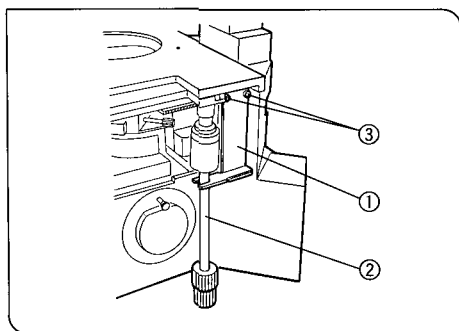
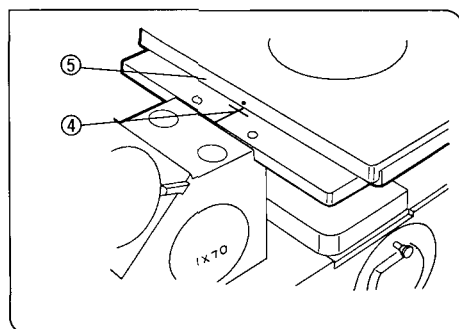

Fig. 17
Fig. 18
(Figs. 17, 18)
1. Insert the stalk ② of the flexible X-Y movement knobs into the U-shaped notch in the positioning bracket ①. (Fig. 17)
2. Using the Allen screwdriver, tighten the clamping screw ③ of the bracket lightly to the stage.
3. Align the stage's center alignment index line ④ with the edge of the upper stage ⑤. (Fig. 18)
5. Tighten the clamping screw ③.